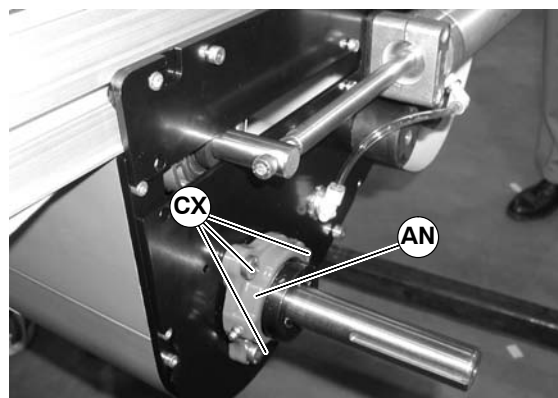

Figure 87
4. Remove the three (3) mounting screws (CX of Figure 87).
5. Remove and replace bearing housing assembly (AN of Figure 87).